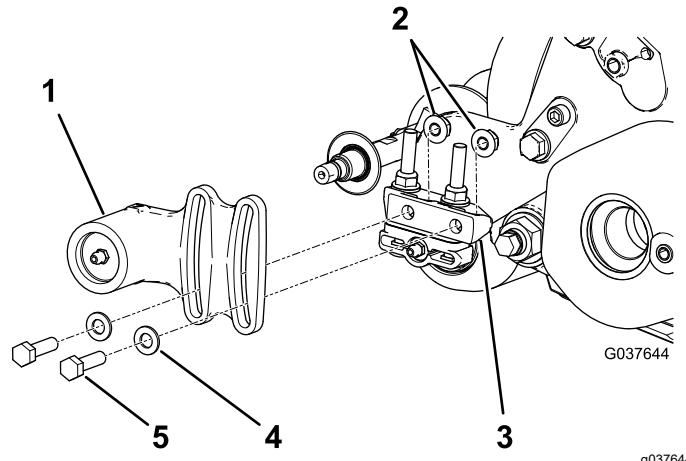
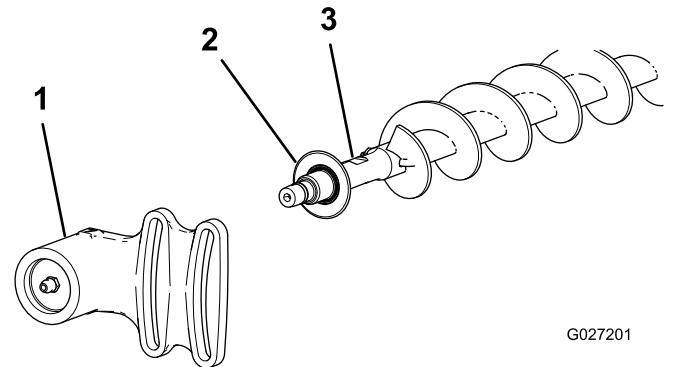

Figure 20
Figure 21
- If a roller brush is installed on the cutting unit, remove the 2 bolts, washers, and nuts securing the non-drive bearing housing to the bearing-housing mounting bracket (Figure 20 and Figure 21).
1. Non-drive bearing housing	4. Washer (2)
2. Flange nuts	5. Bolt (2)
- Slide the non-drive bearing housing and the excluder seal off the brush shaft (Figure 21).
9. Install the excluder seal and the non-drive bearing housing onto the brush shaft (Figure 21).